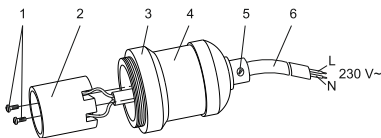

Figure 4
3.2.3 Connection of lamp socket without cord (figure 4):